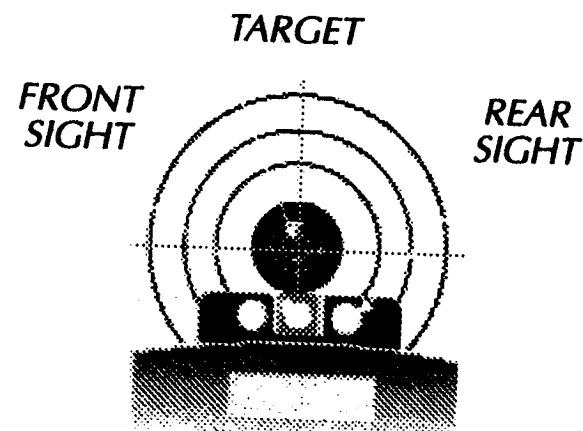

Fig. 9 AIMING
3. Grasp the pistol by handgrip and, with index finger resting along the outside of trigger guard, take aim. Aim by matching target with front and rear sights (Fig. 9).